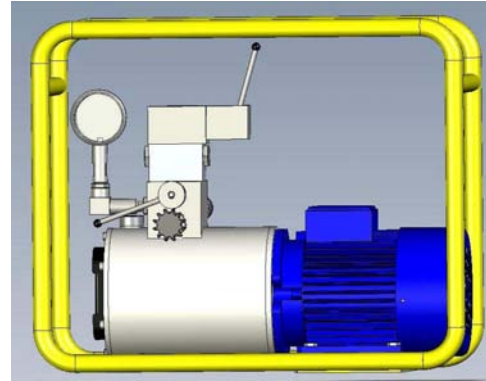

Figure 12
Once the desired pressure has been set, it is applied by tightening the moveable clamps using the joystick (3), or push-buttons, according to model. To release pressure from Phase 1 to Phase 2, lower the lever of the discharge valve (5). See Figure 12. Raise it again once the pressure of the circuit has decreased sufficiently.